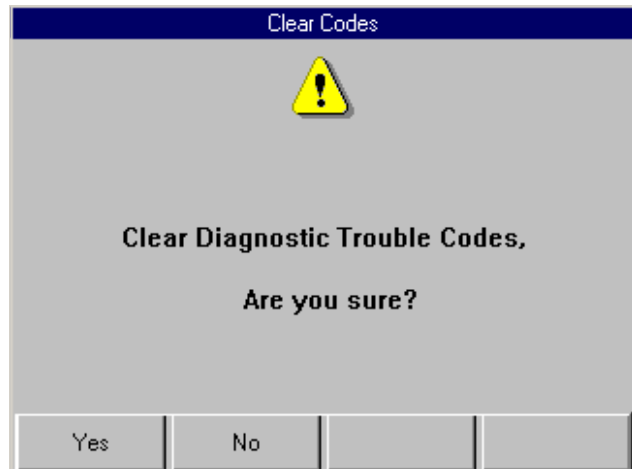
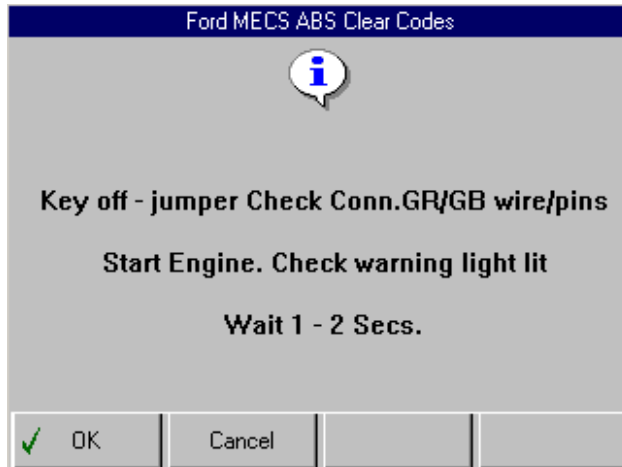

Figure 5.17: Clear Codes Instruction Screen
Figure 5.18: Clear Codes Instruction Screen
- 2 From the Diagnostic Trouble Codes menu screen, select **Clear Codes** and press the **ENTER** key. This displays a clear codes instruction screen similar to either Figure 5.17 or Figure 5.18.